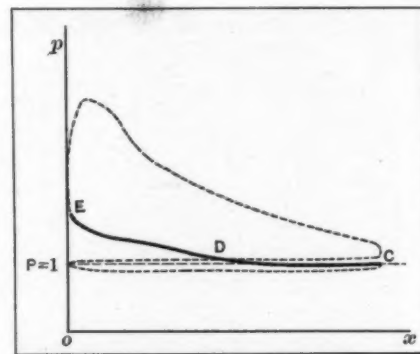

Fig. 5—Loss of compression due to a leak
**COMPRESSION.**—It may happen as shown in Fig. 5 that the compression curve C D E is too close to the straight line  $P = 1$ , which means that the amount of compression is greatly reduced. If the suction curve is normal this form of diagram shows a leakage in the cylinder. The seating of the valve should be looked over, also the seating of the valve plugs and the piston rings as well.